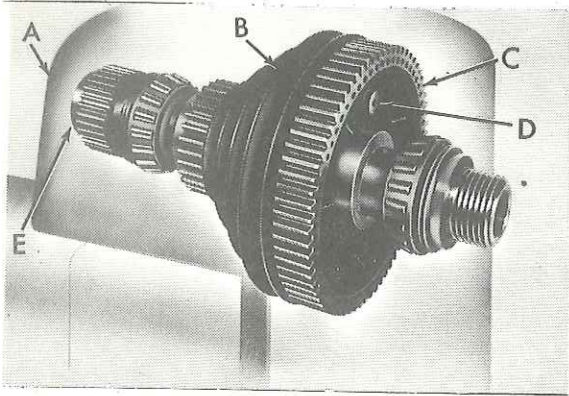

Figure 19
3. Raise headstock cover (A, Fig. 19) and pull out lock pin (D) disengaging bull gear (C) from pulley (B).
5. Loosen set screw in bearing adjusting nut (E) and tighten nut until spindle end play has been eliminated.
6. Give bull gear (C) a sharp spin with your hand -- bull gear should rotate about a half turn. If it doesn't, adjust nut (E) and recheck.